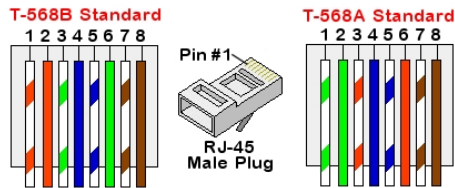

Figure 16: Standard cable wiring
- Insert the eight wires into an RJ45 connector, as described in *Figure 16*